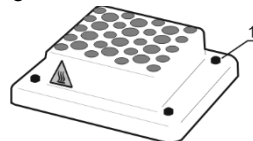

Figure 2. Thermoblock setup
- Align the thermoblock so that the warning label is facing the front of the unit (fig. 2).
- Secure with the four knurled screws (fig. 2/1) or four hex screws.